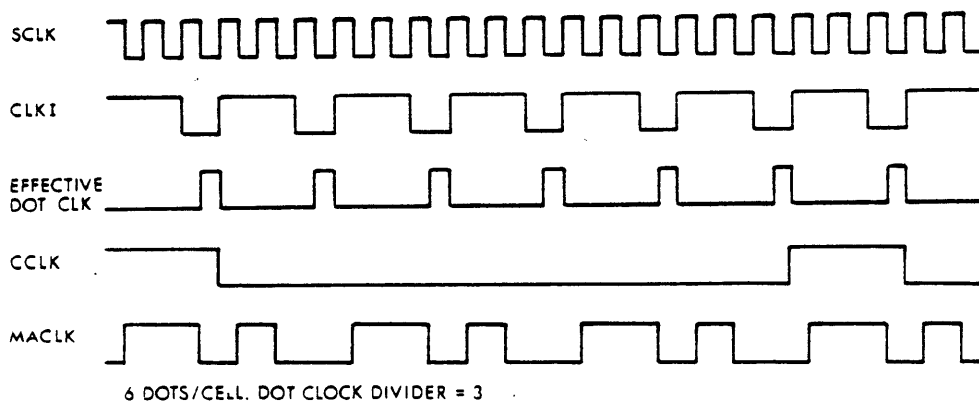

Figure 6.3 - TYPICAL CLOCK TIMING
A clock inhibit signal (CLKI) is produced in A59 by dividing the DCLK by a ratio set by CK0 through CK3 from Control Register 0 (A42). CLKI is used to inhibit DCLK in the serial shift register (A3), producing a programmable effective dot clock frequency. A60 divides DCLK by a divide of 6 to 11 depending on DT0 through DT2 from Control Register 0, and A58 divides the resulting signal by the same ratio used in A59, producing a Character Clock (CCLK) that is a submultiple of the effective dot clock frequency. The load signal (LD) is also produced in A58; it is used to synchronize DCLK with CCLK and to synchronize the video output section. The Memory Access Clock (MACLK), produced by A60, is used by the memory access control circuit described in section 6.8. Figure 6.3 shows a set of clock pulses for a typical format.